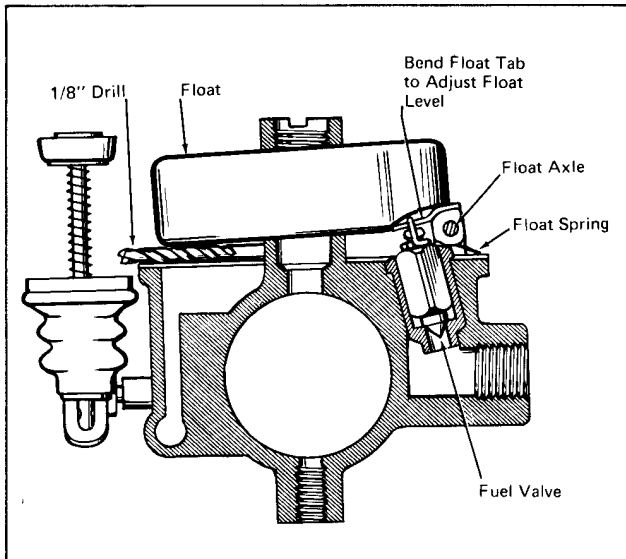

Figure 3-70.
9. Insert fuel valve assembly (14) in fuel valve seat. Assemble float spring (13) and float (12) and install float pin (11). Be sure that fuel valve clip is attached to the float tab. If necessary, bend clip to provide minimum clearance with tab (approximately .010 in.)
10. With the carburetor inverted (inlet needle seated), bottom surface of float should be  $\frac{3}{16}$ " from gasket surface at point opposite hinge. A  $\frac{3}{16}$ " drill can be used as a gage as shown in Figure 3-70. If adjustment is required, use long nosed pliers to bend the tab that contacts the fuel valve. Be careful to avoid damage to the fuel valve or seat.
11. Install throttle stop screw (18) and spring (19). Adjust screw to open throttle slightly but not far enough to uncover the No. 2 idle discharge hole.
12. Install idle mixture needle (16) and spring (17). Screw needle IN until it seats lightly against the No. 1 idle discharge hole, then back it out 1-1/2 turns as a preliminary idle adjustment.
1. Carefully guide cup of accelerating pump (19) into pump well. Seat accelerating pump boot around top of accelerating pump boss.
2. Assemble washer (17) on main jet and discharge tube (18) and assemble O-ring (16) in groove near end of discharge tube.
3. Hold carburetor inverted (with float up) and rotate the long end of the spring upward so that it is against the float. Carefully position the fuel bowl on the throttle body releasing the float spring so that the long end of the spring presses against the side of the bowl (Refer to Figure 3-70). Be sure that the accelerating jet fits properly in the hole in the throttle body.
4. Assemble main jet and tube (6) through hole in bottom of bowl and into throttle body boss.
5. Assemble gasket (5) on idle tube (4) and insert tube in throttle body. Carefully guide tube through bore and into discharge tube on opposite side of venturi. Tighten idle tube and main jet.
6. Attach accelerating pump lever (2) on top of accelerating pump. Other end of lever goes on rectangular end of throttle shaft. Install pump lever screw (1) in end of throttle shaft.